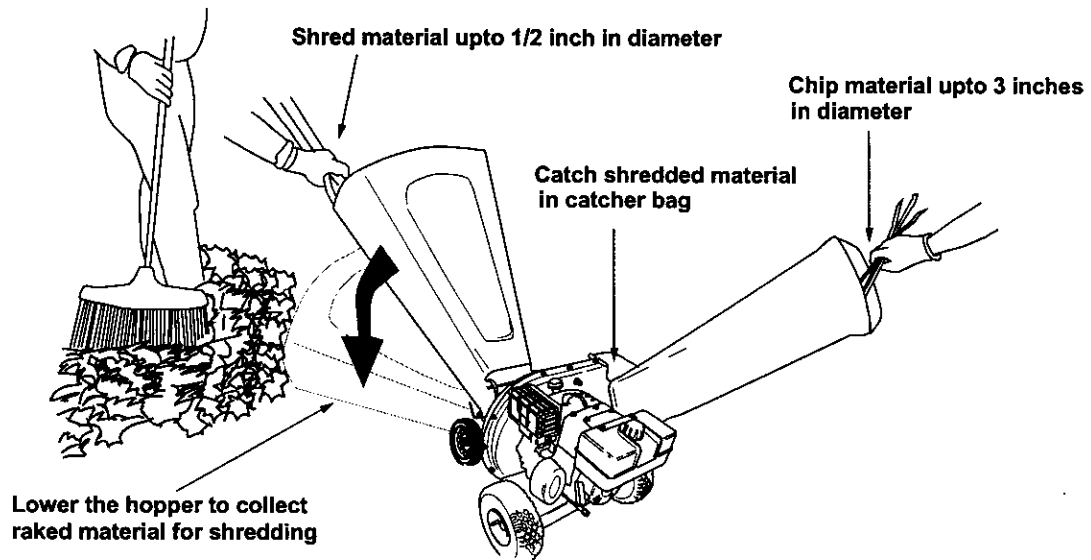

Figure 12
- a. Leaves and small branches up to 1/2" diameter (maximum) can be fed into the hopper assembly when it is in the raised or lowered position. See figure 12.
- b. Bulky material, such as stalks or heavy branches, up to 3" in diameter should be fed into the chipper chute. See figure 12.